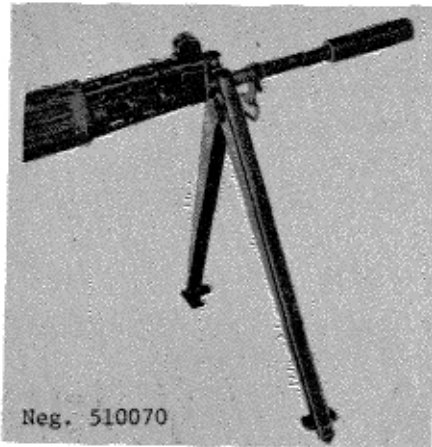

Figure 71. C.A.L. bipod.
c. The bipod (fig 71) is attached by squeezing the legs together and, after aligning the clamp section with the barrel, releasing the legs. Squeeze the legs together to remove the bipod.